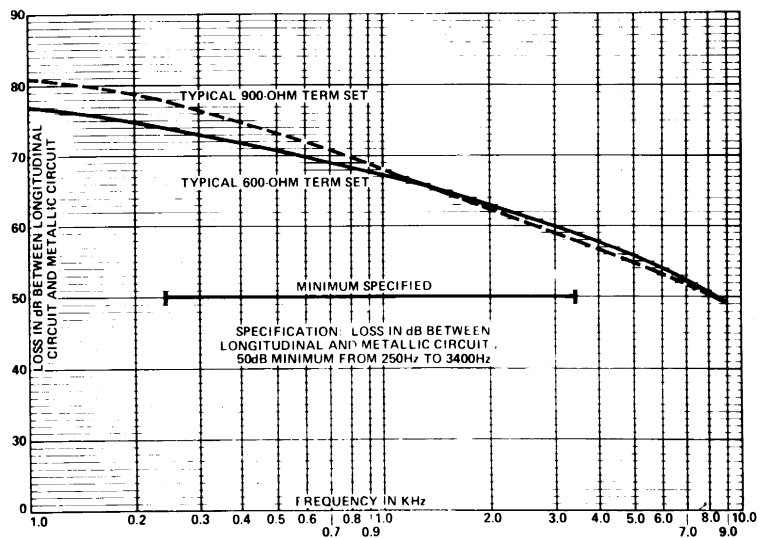

Figure 10. Longitudinal Balance Specification
- (h) LONGITUDINAL BALANCE: As shown in Figure 10.